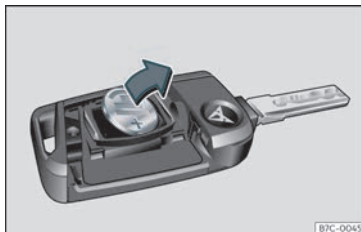

Fig. 73 Vehicle key: removing the battery.
- Extract the battery from the compartment using a suitable thin object» Fig. 73 .
- Place the new battery in the compartment as shown» Fig. 73 , pressing in the opposite direction to that shown by the arrow » ⓘ.